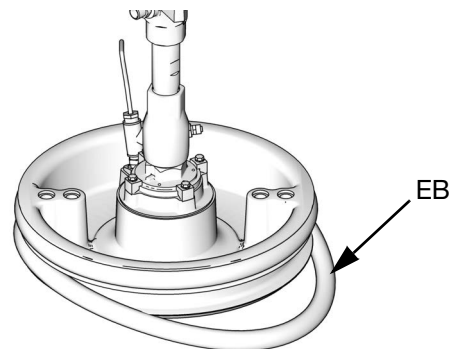

FIG. 18
1. Using a wooden or plastic tool to prevent damage to the wiper (EB), clean all material from seal grooves.
2. *Working from the bottom*, angle one wiper (EB) over back of platen. See FIG. 18.
3. Insert wiper (EB) in top groove and run front of wiper into groove.
4. Insert second wiper (EB) in lower groove and run front of wiper into groove.